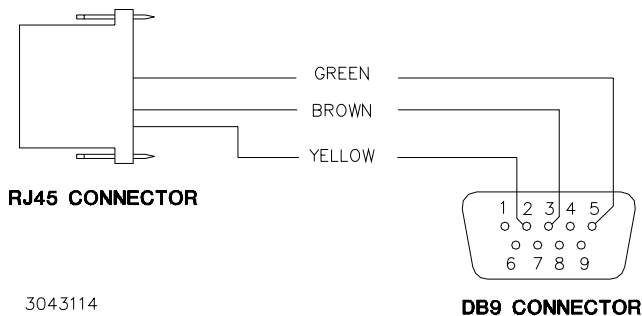

FIGURE 2. RJ45 TO DB9 ADAPTER WIRING
- b) to an external RS-232 controller with a DB9 type connector (male pins) by connecting the RJ45 patch cord to the BIT 4886 RS 232 port (J2), then using the RJ45 to DB9 adapter supplied (see Figure 2) to connect the RJ45 patch cord to the external controller. On the RJ45 patch cord, the 6-pin connector plugs into the BIT 4886 RS 232 port, and the 8-pin connector plugs into the RJ45 to DB9 adapter (see Table 2 and Figure 2).